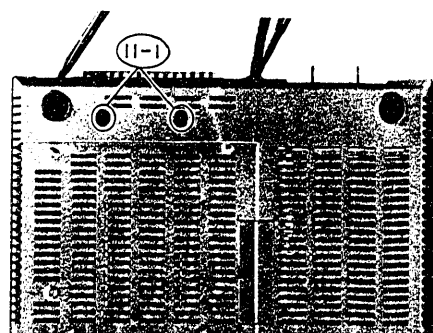

Fig. 32
11. Power transistor PC Board (Fig. 32)